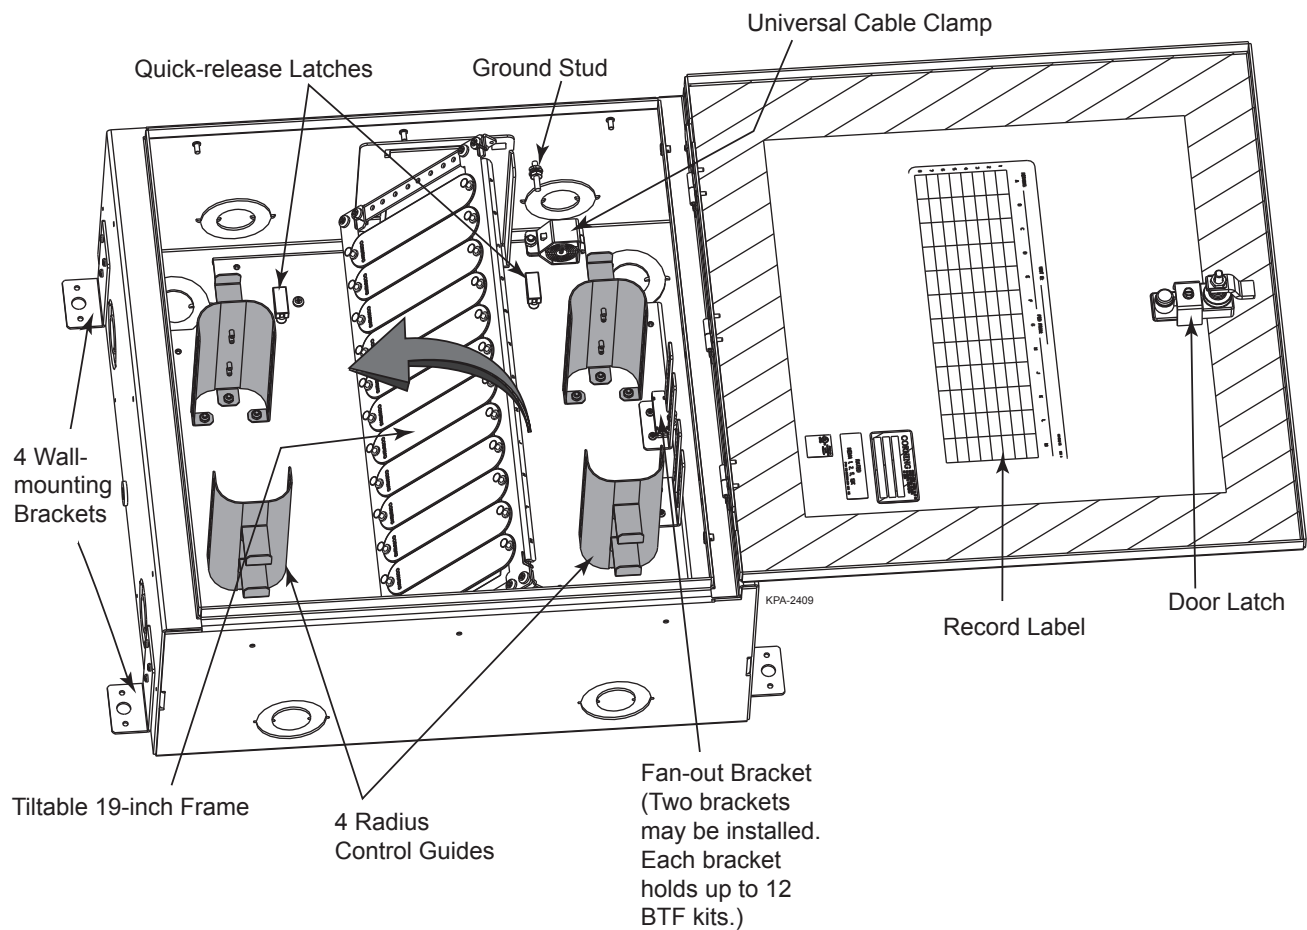

Figure 1
- Step 1:** Install (4) supplied wall-mounting brackets to cabinet using provided screws (Figure 1).